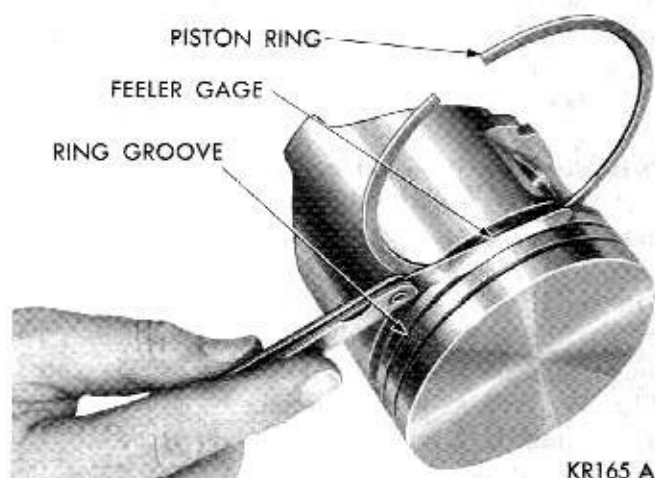

Fig. 32—Measuring Piston Ring Side Clearance
(3) Measure side clearance between piston ring and ring land, (Fig. 32).